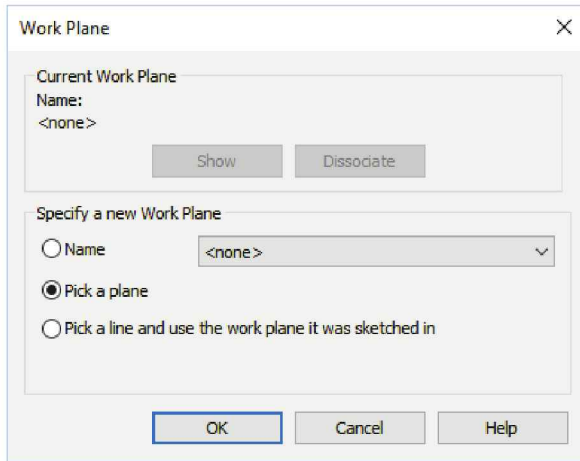

FIGURE 11-2.7 Work Plane prompt
When you select the **Model Line** tool, Revit will ask you what plane you want to draw on (Figure 11-2.7). This will allow Revit to restrict all your line work to a particular plane. Otherwise you would not know exactly at what depth the lines would be drawn on.
15. Select **Pick a Plane** (Figure 11-2.7) and then pick the wall in the elevation view (use the TAB key and make sure the tool tip lists the wall before picking the plane).